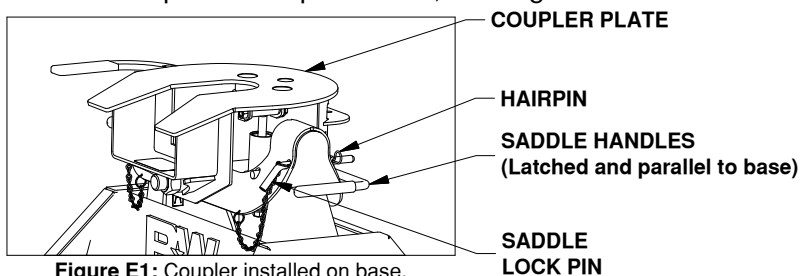

Figure E1: Coupler installed on base.
1. **Place coupler.** Lubricate the polyurethane bushings on top of the pivot arms with high grade lithium grease (available at your local hardware/automotive store). Place the coupler over the pivot arms. (The saddle handles should be parallel with the base in the latched position.) Place the saddle lock pins through the saddle, then insert the hairpins through the holes in the end of the saddle lock pins to secure the coupler to the pivot arms, see Figure E1.